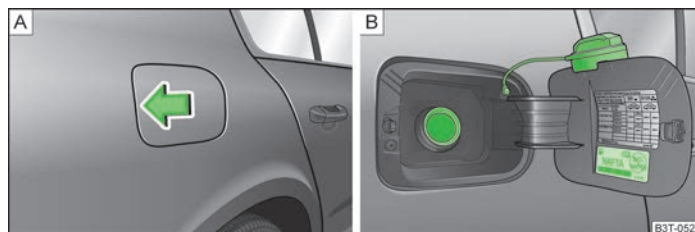

Fig. 129 Right rear side of the vehicle: Open fuel filler flap/fuel filler flap with cap unscrewed
The correct type of fuel for your vehicle and the tyre size and inflation pressure are specified on the inside of the fuel filler flap » Fig. 129 on page 155 - [B].
- Press in the middle of the left area of the fuel filler flap » Fig. 129 - [A].
- Unscrew the filler cap by turning it to the left and place the cap onto the top of the fuel filler flap » Fig. 129 - [B].